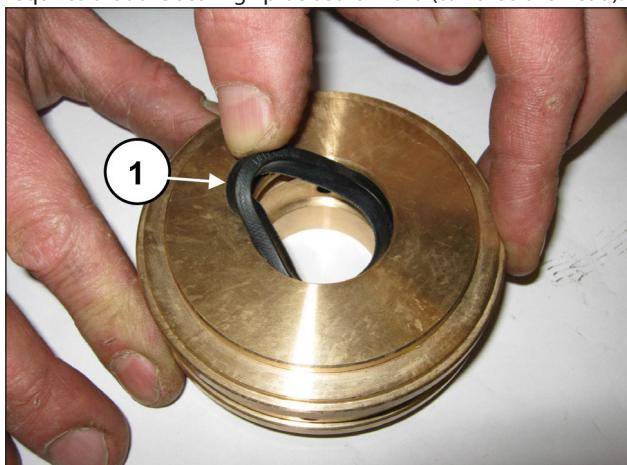

Fig. 177
Insert the low pressure seal in the seal support (pos. ①, Fig. 177) paying attention to the mounting direction which requires that the sealing lip be set forward (towards the head).